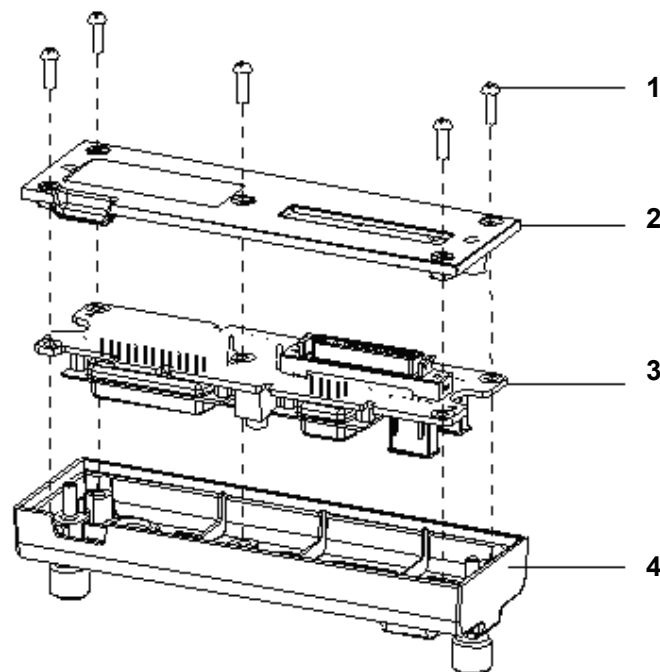

Figure 4-46 Removing Data Extension Module
1) As shown in Figure 4-46, remove five M3X8 screws, and separate the data extension module.